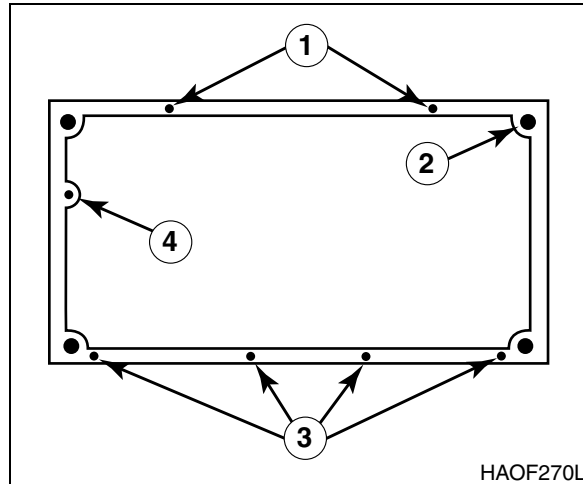

Figure 6
24. Remove four mounting nuts from four corners of cab floor (2, Figure 6).
25. Remove four hex bolts (3, Figure 6) from door side of cab floor.
26. Remove two hex bolts (1, Figure 6) from right side of cab floor and one bolt (4) from front of cab floor.